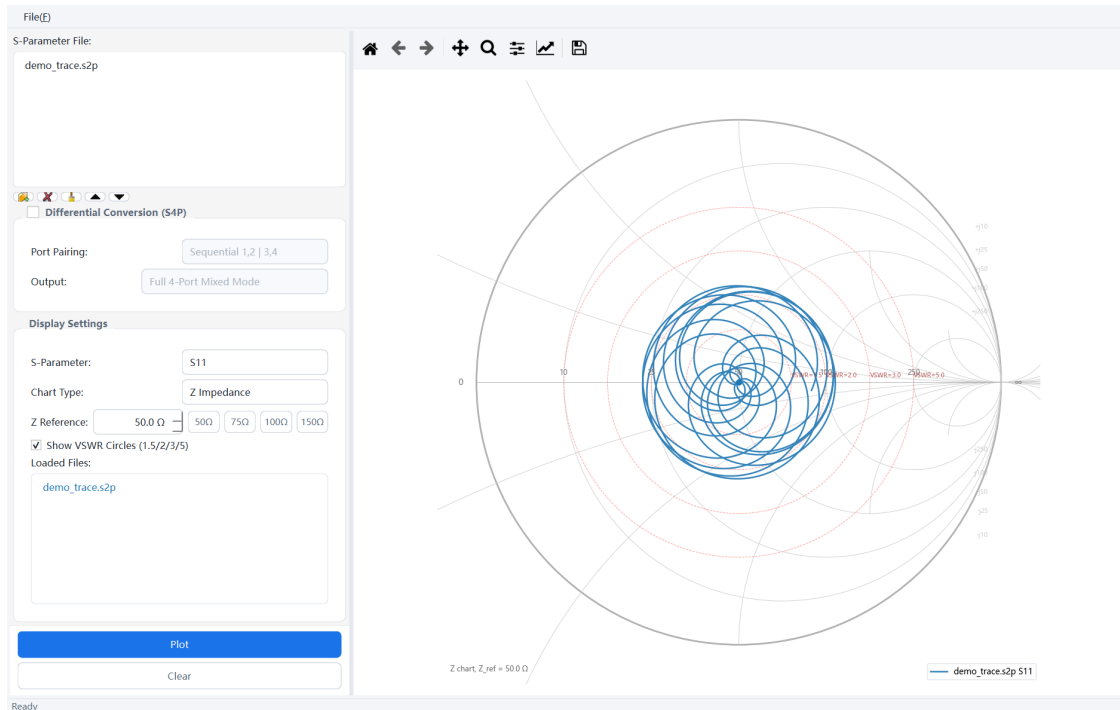

Fig. 7-2 Smith chart
Step 1 Menu **S-Parameter Analysis** → **Smith Chart**, same file, select **S11**, **Z impedance** and **50 Ω reference**, then plot (Fig. 7-2). Add other files for comparison, switch to Y admittance or view VSWR circles.